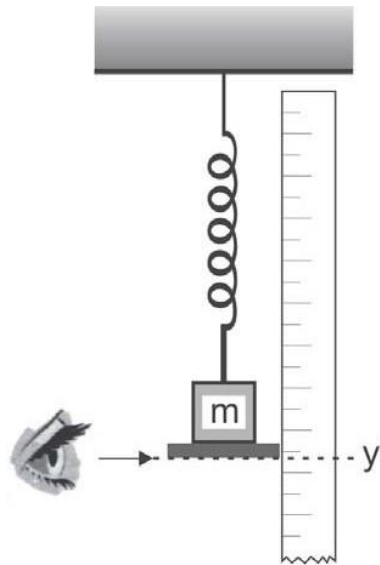

Fig.2 Measuring the position of the extension of the spring.
- ❖ Take a reading, y_0 , on the ruler by using the bottom of the hanger as a reference – **figure 2**.